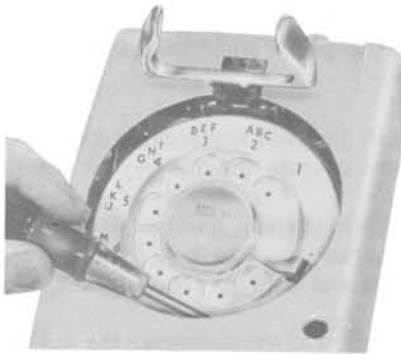

Fig. 7—Wall Set Housing Alignment
- (4) When housing is approximately 1/2-inch from the dial, insert a screwdriver between housing and dial (Fig. 7).